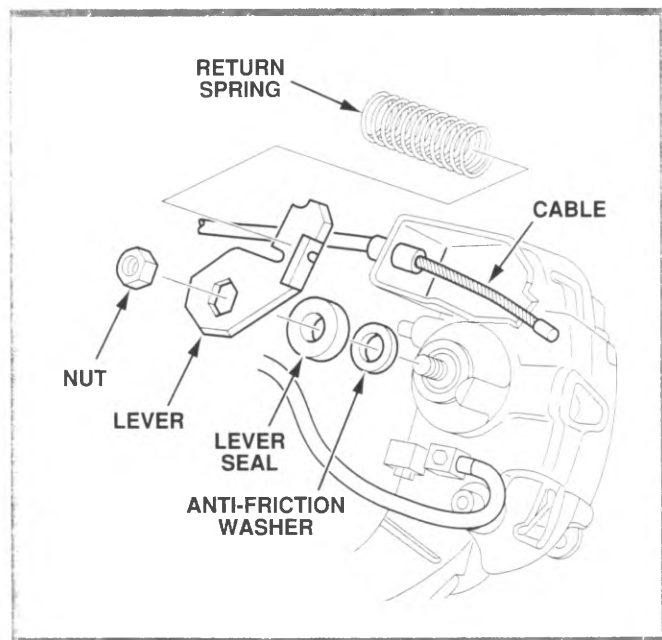

Figure 6-36. Remove Parking Brake Lever
1. Loosen the tension on the parking brake cable at the equalizer and disconnect the cable from the parking brake lever (figure 6-36). Remove the spring. Holding the lever, remove the nut. Remove the lever, lever seal and anti-friction washer.